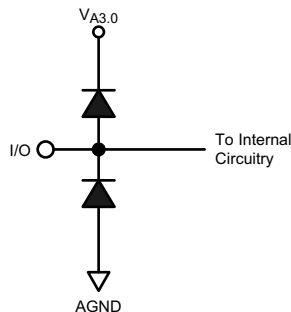

Figure 1.
- (1) The inputs are protected as shown below. Input voltage magnitudes above $V_{A3.0}$ or below GND will not damage this device, provided current is limited per Note 4 of the Absolute Maximum Ratings table. However, errors in the A/D conversion can occur if the input goes above 2.6V or below GND as described in the Operating Ratings section see Figure 1.
- (2) Typical figures are at $T_A = 25^\circ C$ and represent most likely parametric norms at the time of product characterization. The typical specifications are not ensured.
- (3) The input capacitance is the sum of the package/pin capacitance and the sample and hold circuit capacitance.
(1) The inputs are protected as shown below. Input voltage magnitudes above $V_{A3.0}$ or below GND will not damage this device, provided current is limited per Note 4 of the Absolute Maximum Ratings table. However, errors in the A/D conversion can occur if the input goes above 2.6V or below GND as described in the Operating Ratings section see Figure 1.
(2) This parameter is specified in units of dBFS – indicating the equivalent value that would be attained with a full-scale input signal.
- The inputs are protected as shown below. Input voltage magnitudes above $V_{A3.0}$ or below GND will not damage this device, provided current is limited per Note 4 of the Absolute Maximum Ratings table. However, errors in the A/D conversion can occur if the input goes above 2.6V or below GND as described in the Operating Ratings section see Figure 1.